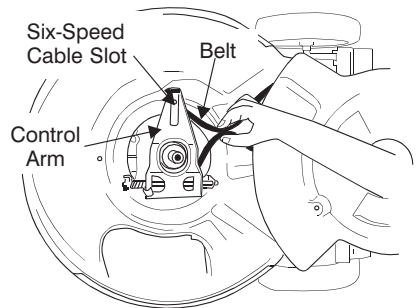

Figure 23
- Squeeze the belt together and push belt forward. Press the control arm inward towards the deck and remove the six speed cable from the slot. See Figure 23.